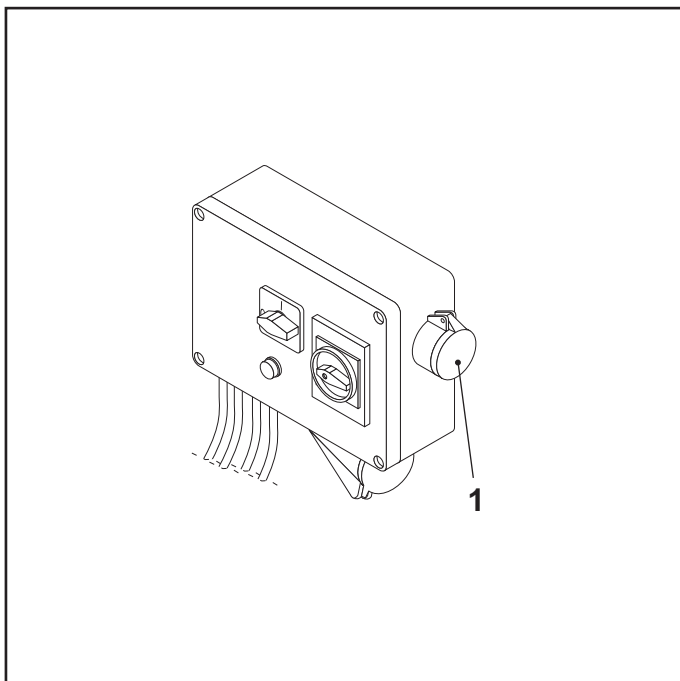

FIG. 13
- Connect the electric power supply cable to the socket (FIG.13-REF.1).